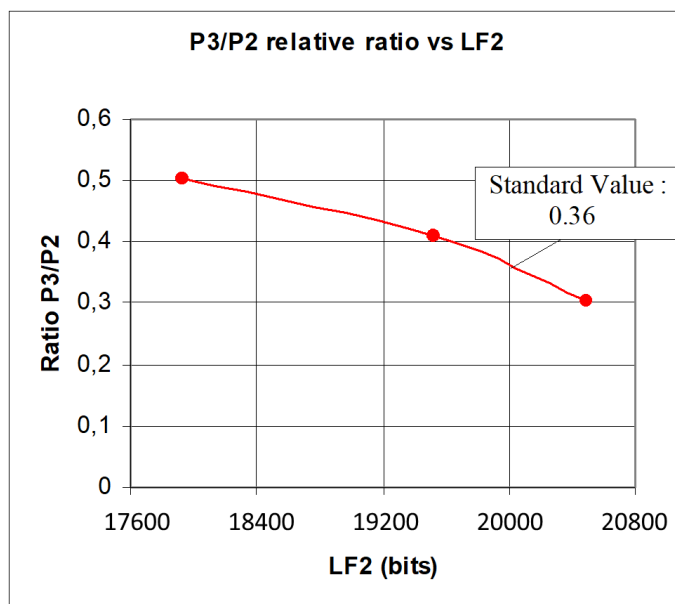

Figure 336: P3/P2 ratio variation with LF2.
- In order to compensate for imperfect sample parallelism, working distance, surface potential and ES slit position, one needs to center the secondary ion beam in the **entrance** slit (ES) acting on deflectors P2-P3 and Cy, and to focus it in this slit by acting on EOS. You can do so either manually or using the Tuning programs.
**Caution:** While using the Sec. Ion Beam centering software, which determines the optimum values for Cy, P2 and P3, the relative ratio P2/P3 has to be properly set. This ratio allows maintaining the secondary ion beam parallel to the horizontal axis while varying its height in ES changing P2 and P3 in synchronism. This ratio is very sensitive to the setting of LF2 (Figure 336). As LF2 is generally set to 20000 bits, the relative ratio P3/P2 must be set to 0.36.